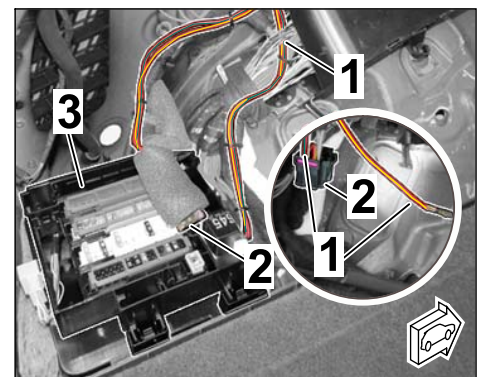

Figure 11
2.3.5 Route RD/GN and RD/YE lines to connector B (preparation). (⇒ *Figure 11*).
Release connector B, connect lines RD/GN and RD/YE as described in Step 2.3.2 (⇒ *Figure 11-inset-*).